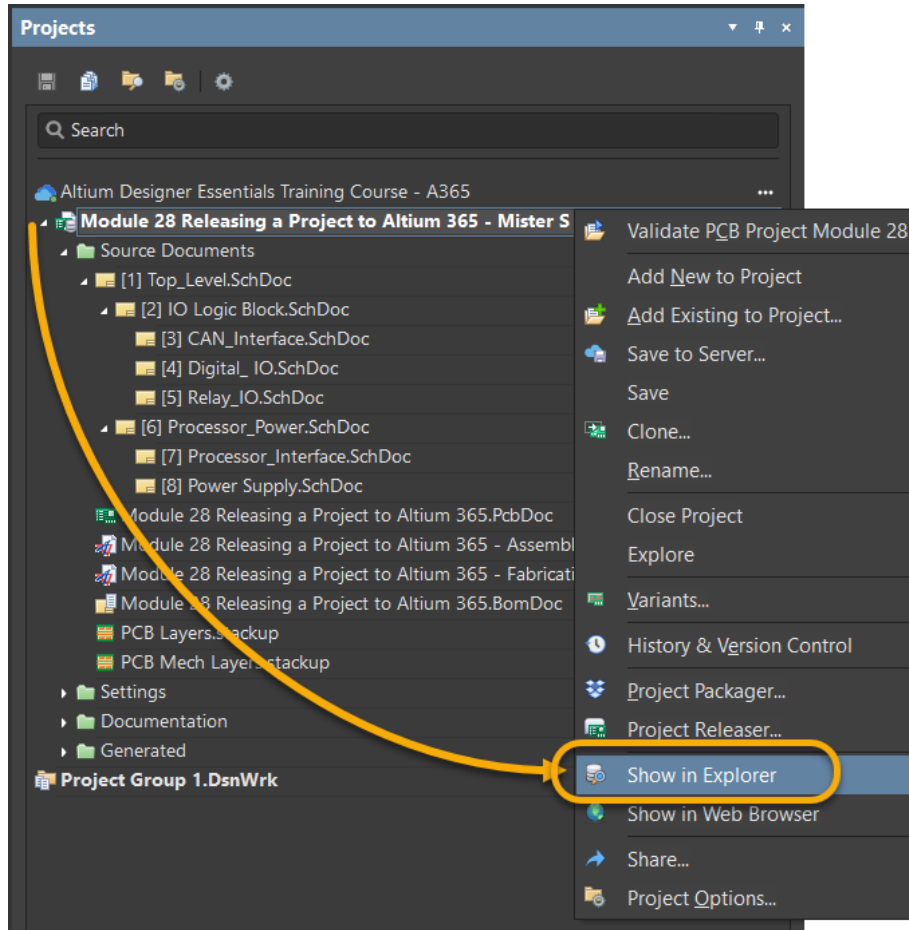

Figure 12. Open the Explorer Panel.
39. At the *Project* panel, select the Project, right-click and execute the command **Show in Explorer**, Figure 12.